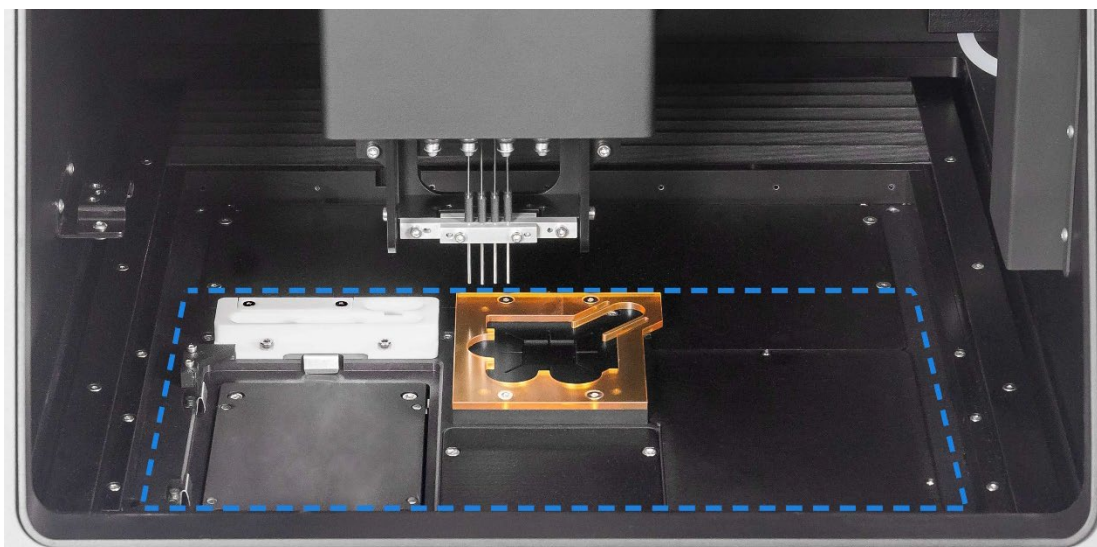

Figure 78. Area of the Shasta system to clean after the end of dispenses for the day. The area to clean is indicated by the blue-dashed rectangle.
2. Visually inspect the dispensing platform for any debris. Moisten a cloth with 70% isopropyl alcohol then wipe down the dispensing platform (chip nest, source plate nest, trough, and the areas on the base platform immediately surrounding them). Refer to Figure 78.